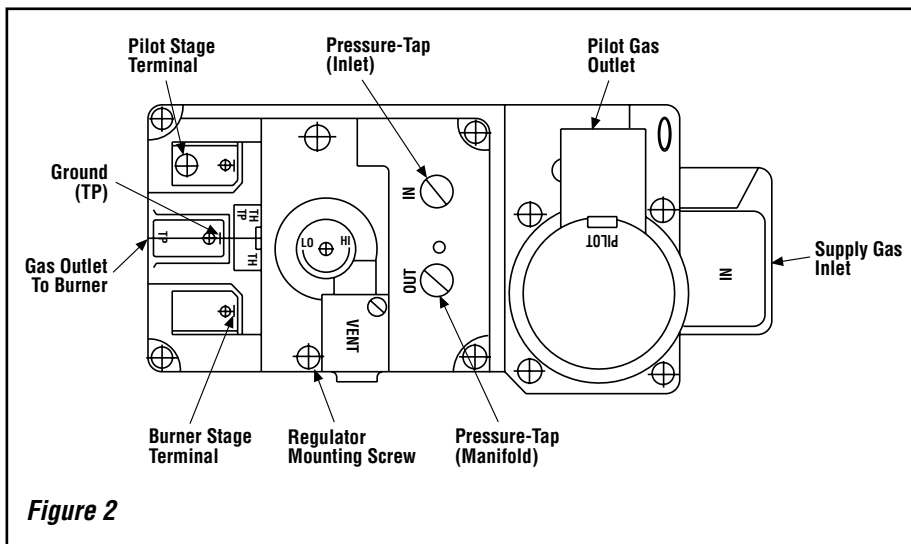

Figure 2
Step 4. Dexen Electronic Valves - See **Figure 2** and the instructions provided with the kit. Remove and discard the two pressure regulator mounting screws. Remove the pressure regulator and diaphragm. Discard all removed components. Ensure the provided diaphragm is installed properly onto the replacement pressure regulator and install the new pressure regulator using the new screws supplied with the kit. Tighten screws.